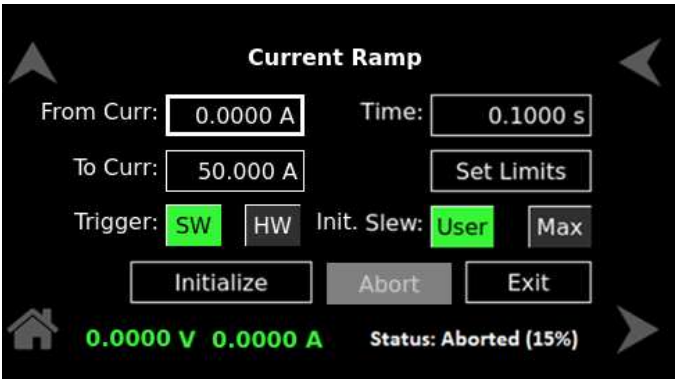

Figure 8-80. Status – Aborted
e) **Aborted:** When the process is aborted (Initializing, Waiting for Trigger, Running), ‘Aborted’ is displayed in the status. Refer to Figure 8-80.